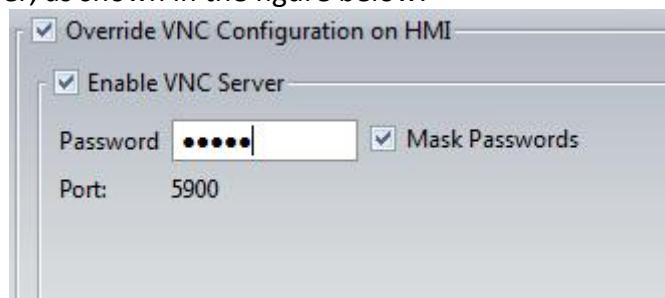

Figure 170 VNC Server Setting-Project
1. Create a new project and set the settings in the **【VNC】** tab page of the **【Server】** setting screen as shown in **Figure 170 VNC Server Setting-Project**.